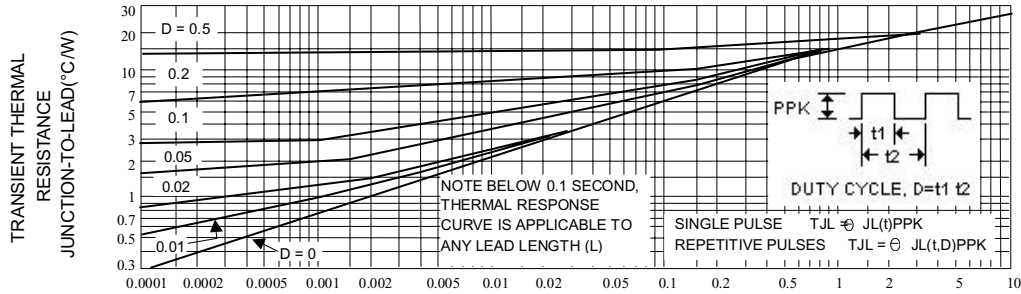
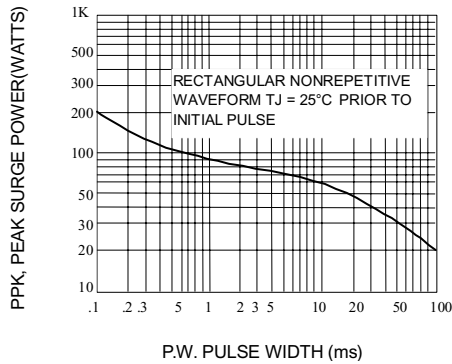

Fig. 2-TYPICAL THERMAL RESPONSE L,
Fig. 3-MAXIMUM SURGE POWER
4. SURGE CURRENT (I_r) NON-REPETITIVE - The rating listed in the electrical characteristics table is maximum peak, non-repetitive, reverse surge current of 1/2 square wave or equivalent sine wave pulse of 1/120 second duration superimposed on the test current, I_{ZT} , per JEDEC standards, however, actual device capability is as described in Figure 3.
ΔT_{JL} is the increase in junction temperature above the lead temperature and may be found from Figure 2 for a train of power pulses or from Figure 10 for dc power.
Data of Figure 2 should not be used to compute surge capability. Surge limitations are given in Figure 3. They are lower than would be expected by considering only junction temperature, as current crowding effects cause temperatures to be extremely high in small spots resulting in device degradation should the limits of Figure 3 be exceeded.